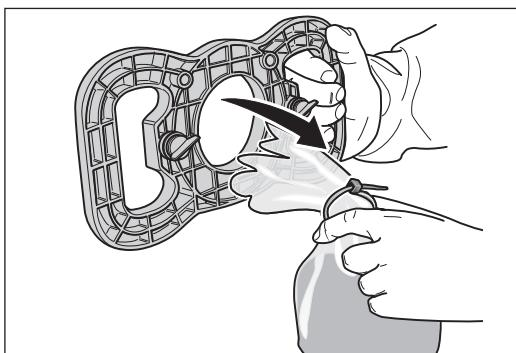
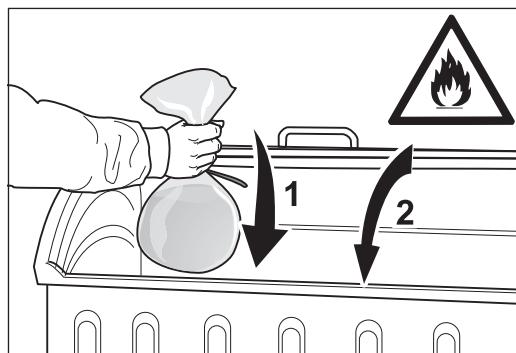

Fig. 31 Remove the waste bag from the emptying fixture.
Fig. 32 Throw the filled waste bag into a **non-combustible** container (1) and keep this closed (2) → **risk of fire**!
- The dust bag must always be removed from the machine directly after sanding and emptied into a waste bag with the emptying fixture! Dispose of these waste bags in a non-combustible container! Cover this container with a non-combustible cover (fig. 32)!
- 18 Remove the filled waste bag from the emptying fixture (fig. 31) and place it in a **non-combustible** container (fig. 32)! Due to the **risk of fire**, seal the container with a **non-combustible** cover!